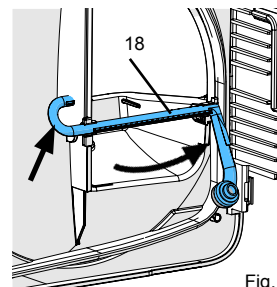

Fig. 11
- Turn rinse tube (18) backwards at curved side and take out (Fig. 11).